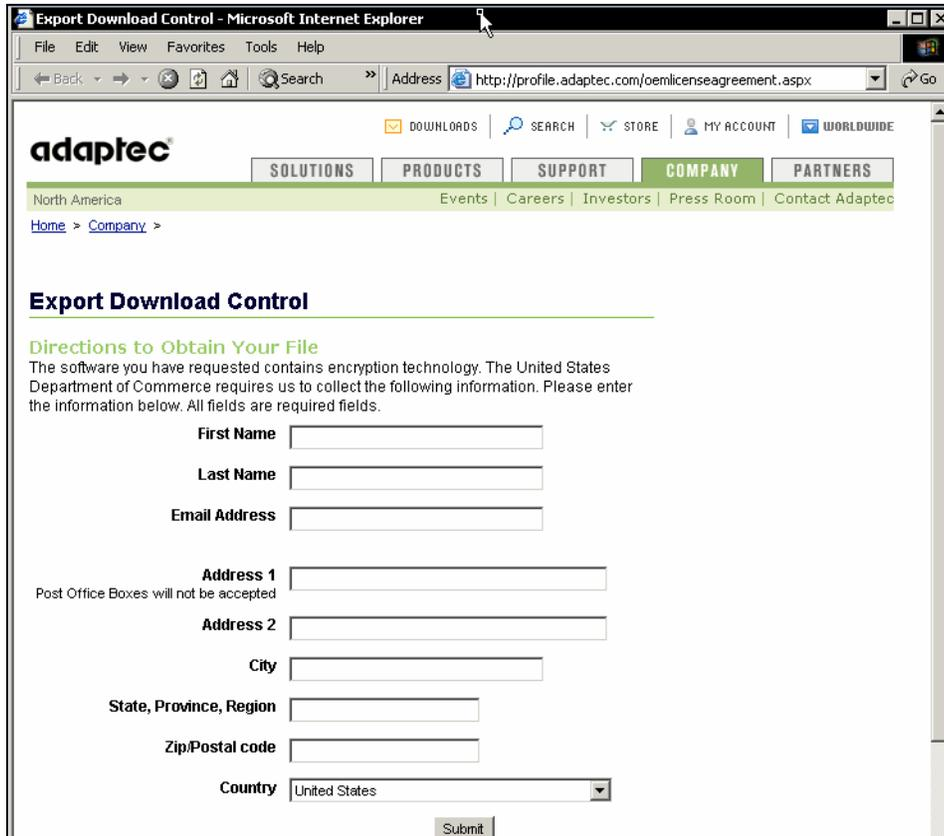

Figure 8 DS400 Firmware export control
**Note:** To obtain the firmware from the Web site, you are required to fill out a short export control form, as shown in Figure 8.